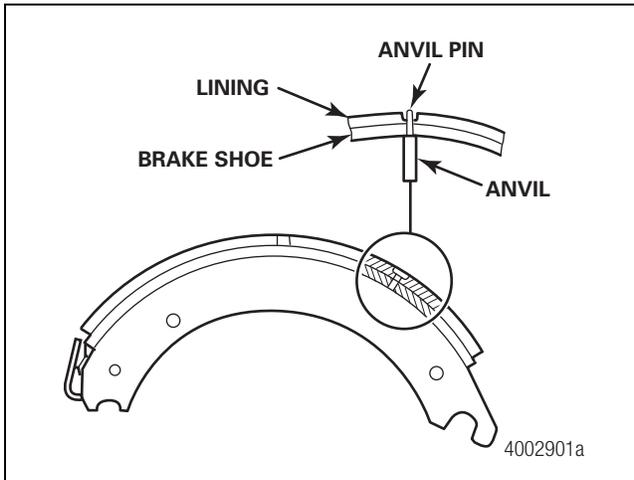

Figure 8.15
6. Before you cycle the rivet machine to fasten the linings to the brake shoe, check that the anvil pin extends through the table and lining assembly to ensure correct driver and anvil pin alignment. Figure 8.15.